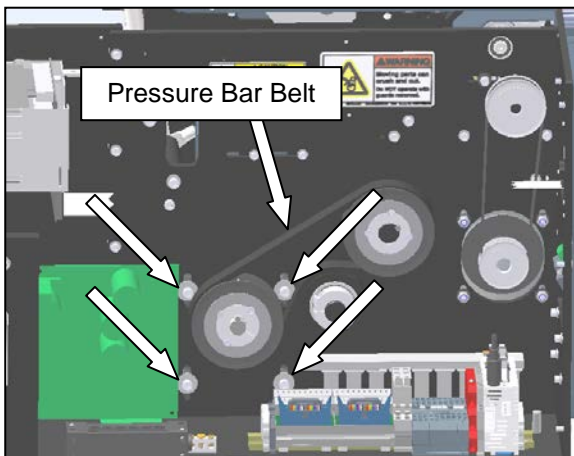

Figure 3-292. Gearbox Mounting Screws
2. Loosen the four gearbox mounting screws. Once the gearbox is able to slide in the adjustment slots, lift the motor up to remove the belt (Figure 3-292).